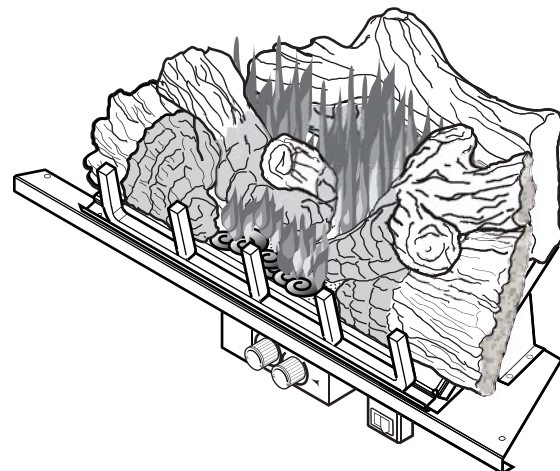

Figure 43 - Correct Appearance of Flames (DFX32C)
4. See *Figure 43, page 29* for the location of the piezo ignitor and control knob. Push in gas control knob slightly and turn control knob clockwise to the OFF position.